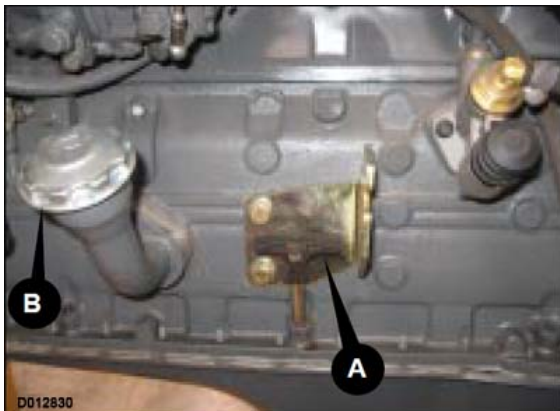

Fig 12.
- 4 Check that the oil level is between the two marks on the dipstick A → Fig 12. (□ 3-14).